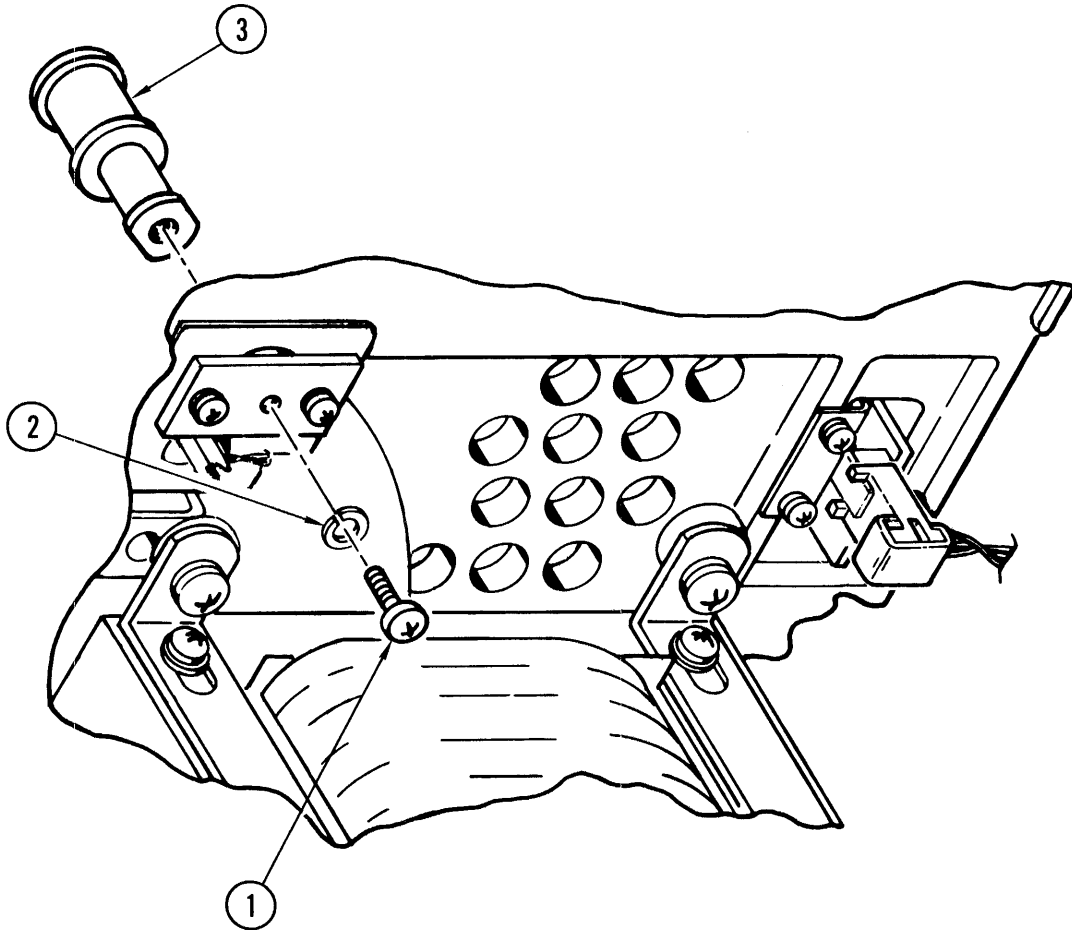

Figure 4-21. Tape Guide Assembly (Solid)
4-35. **Removal and Replacement (Figure 4-21).** Place the transport in service access position (paragraph 4-3) and proceed as follows:
- a. Remove attaching screw (1, Figure 4-21) and lockwasher (2), and leaving shims in place remove tape guide assembly (solid) from top of top plate. Save attaching parts for reinstallation.
- b. Reinstall tape guide assembly (solid) (3) in reverse order of step a.